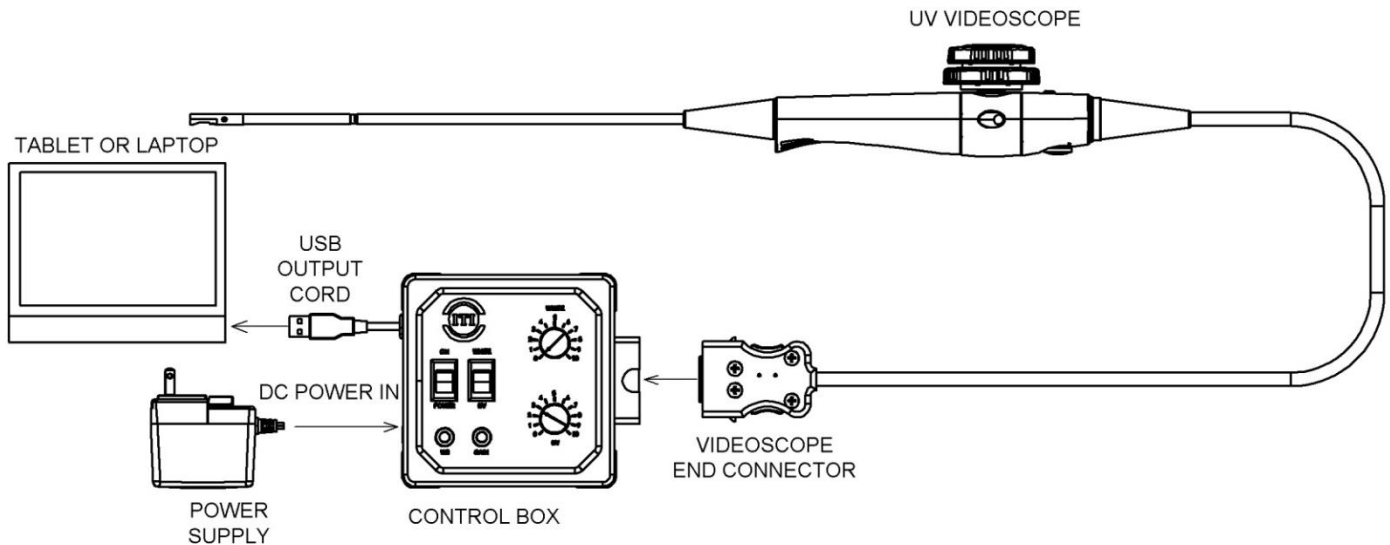

FIG 4: SYSTEM SETUP
1. Connect the Videoscope End Connector to the Control Box connector located on the side panel of the Control Box, as shown in Fig. 4.